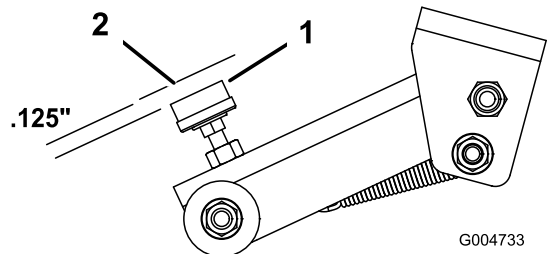

Figure 78
4. Clearance between adjustment screw rubber cushion (Figure 78) and deck latch should be .125 inch. If an adjustment is required, loosen nut on adjustment screw, adjust screw until required clearance is attained and tighten nut.